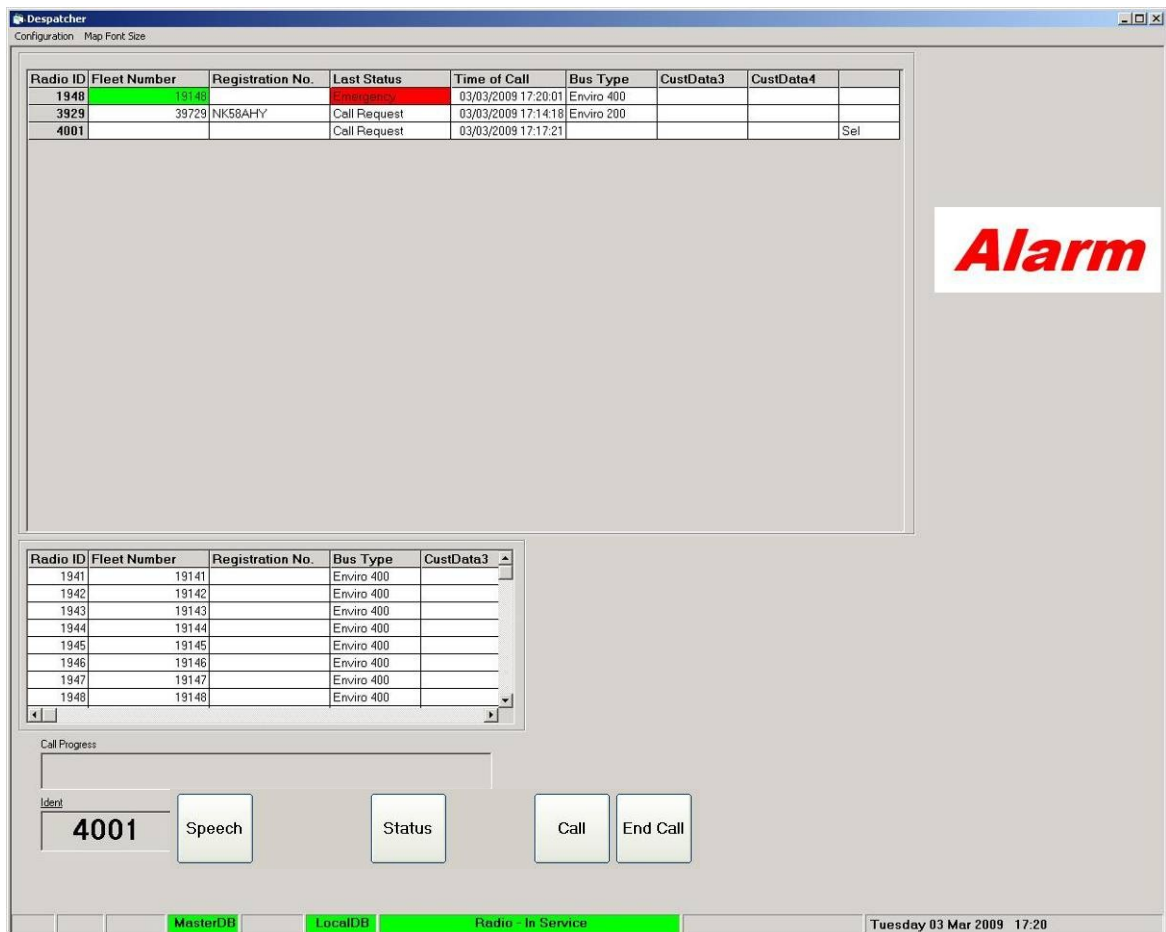

Fig. 6 Emergency Incoming Call – “Alarm”
4.2.1 **Incoming Status Message from the Buses or Inspectors** are displayed in the “**Incoming Calls**” stack under the heading “**Last Status**” – (See Fig. 6). Any necessary response will be at the discretion of the Despatcher operator.